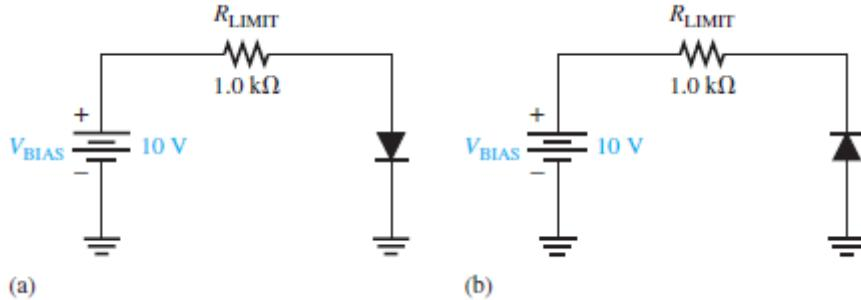

Figure 2–18
- (b) Determine the reverse voltage and reverse current for the diode in Figure 2–18(b) for each of the diode models. Also find the voltage across the limiting resistor in each case. Assume $I_R = 1 \mu\text{A}$.